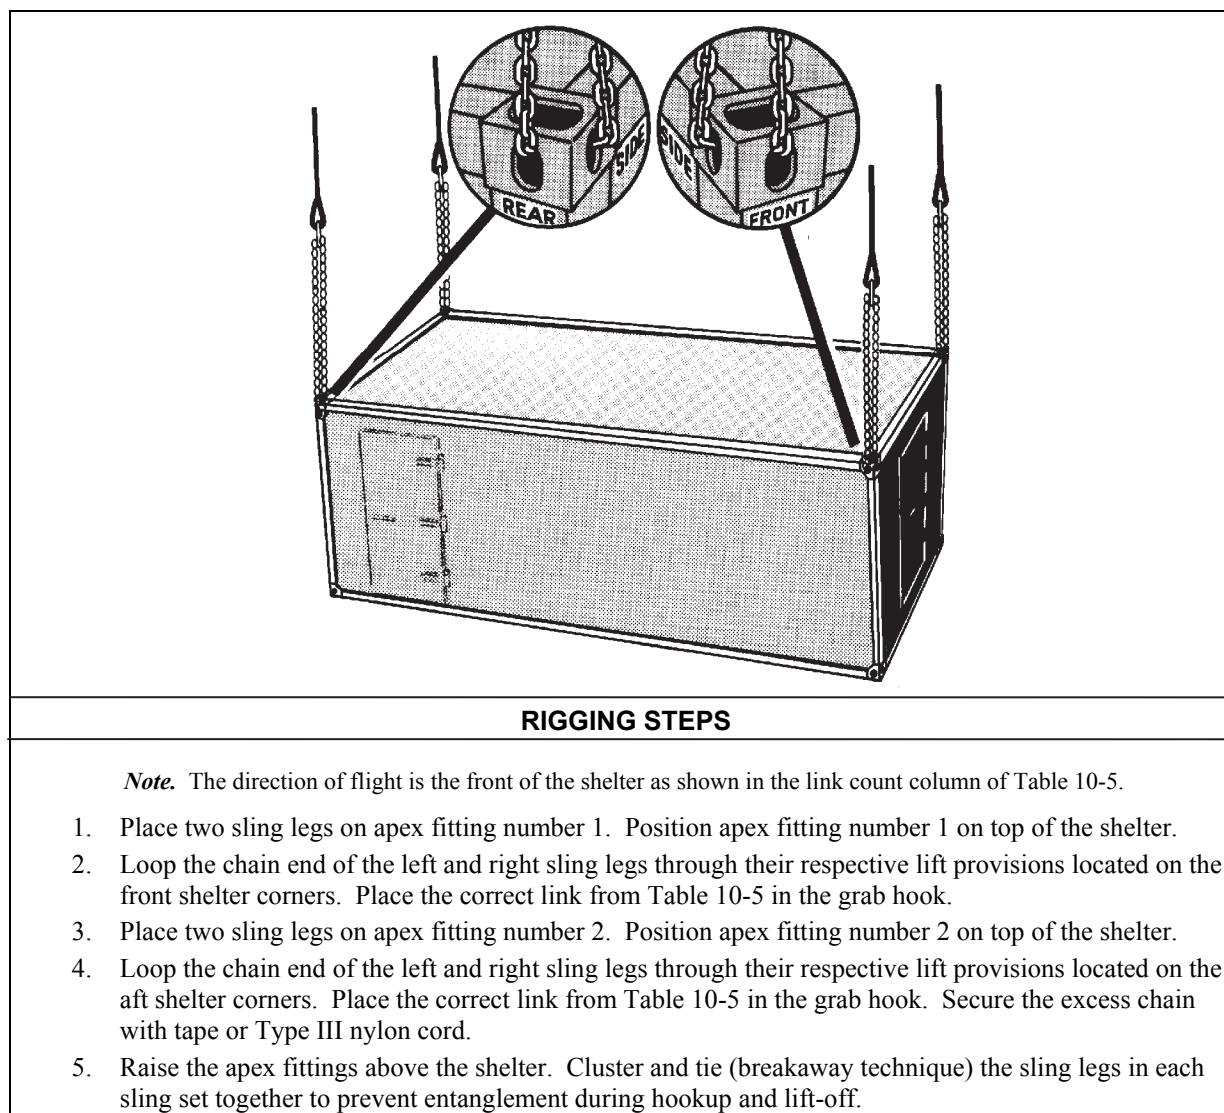

Figure 10-5. 8- x 8-x 20-Foot Shelters
- **Rigging.** Rig the load according to the steps in Figure 10-5.